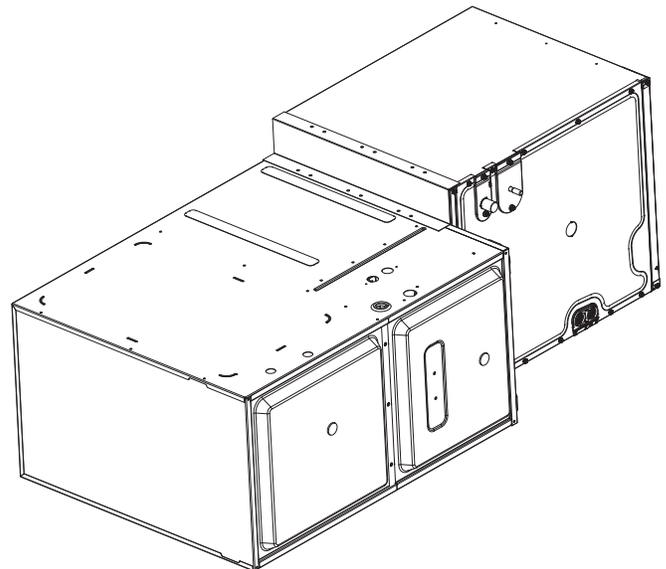

Figure 6
There is no conversion required to reverse from right to left application. Attach the duct flanges to the discharge side of the unit. If the coil and furnace combination are not similar in depth and width, use a field-supplied transition to center the furnace and coil openings (see figure 6).
1. Using the hardware and brackets provided, attach the coil to the furnace then attach the plenum to the coil (Figure 6). Using tape or mastic seal between the coil and furnace and the coil and plenum.